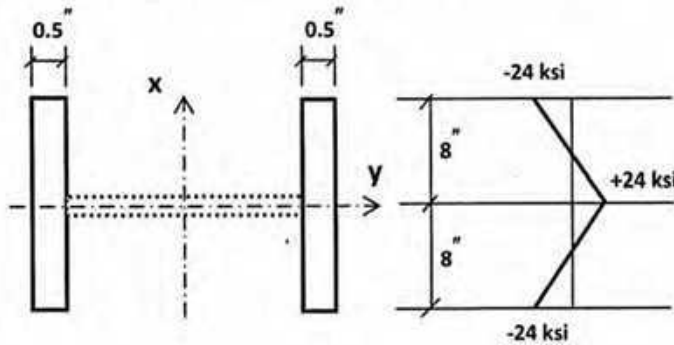

Fig. 3
3. The residual stress distribution in flanges of a webless H section of a column is shown in Fig. 3. Determine the slenderness ratio, L/r_y for minor axis buckling based on effective moment of inertia, if the column buckles at an imposed compressive strain of -0.0008 in/in. Given: $E = 30000$ ksi; $F_y = 42$ ksi. 16 2/3